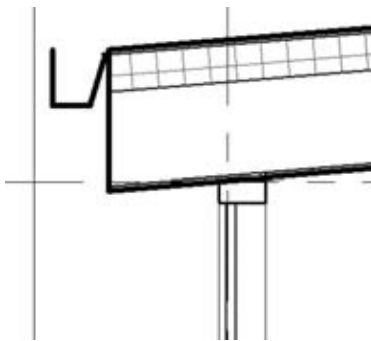

Figure 11.31
3. Use the Mirror tool to flip the gutter. Be sure to uncheck Copy on the Options bar. After mirroring the gutter, align it with the roof edge (Figure 11.31).